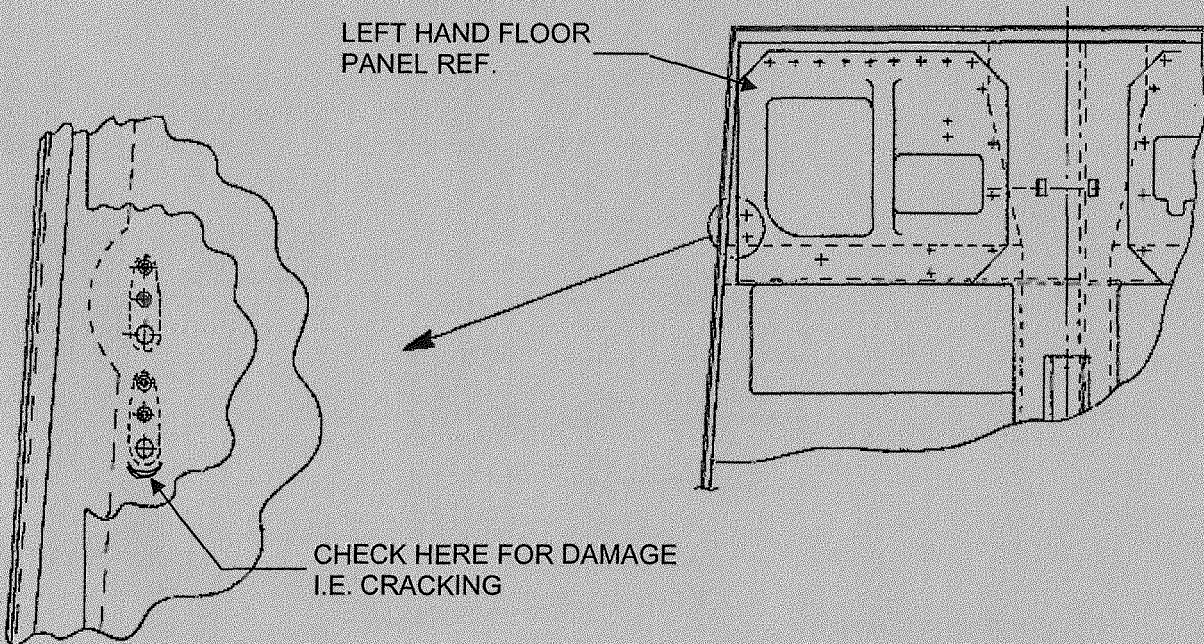
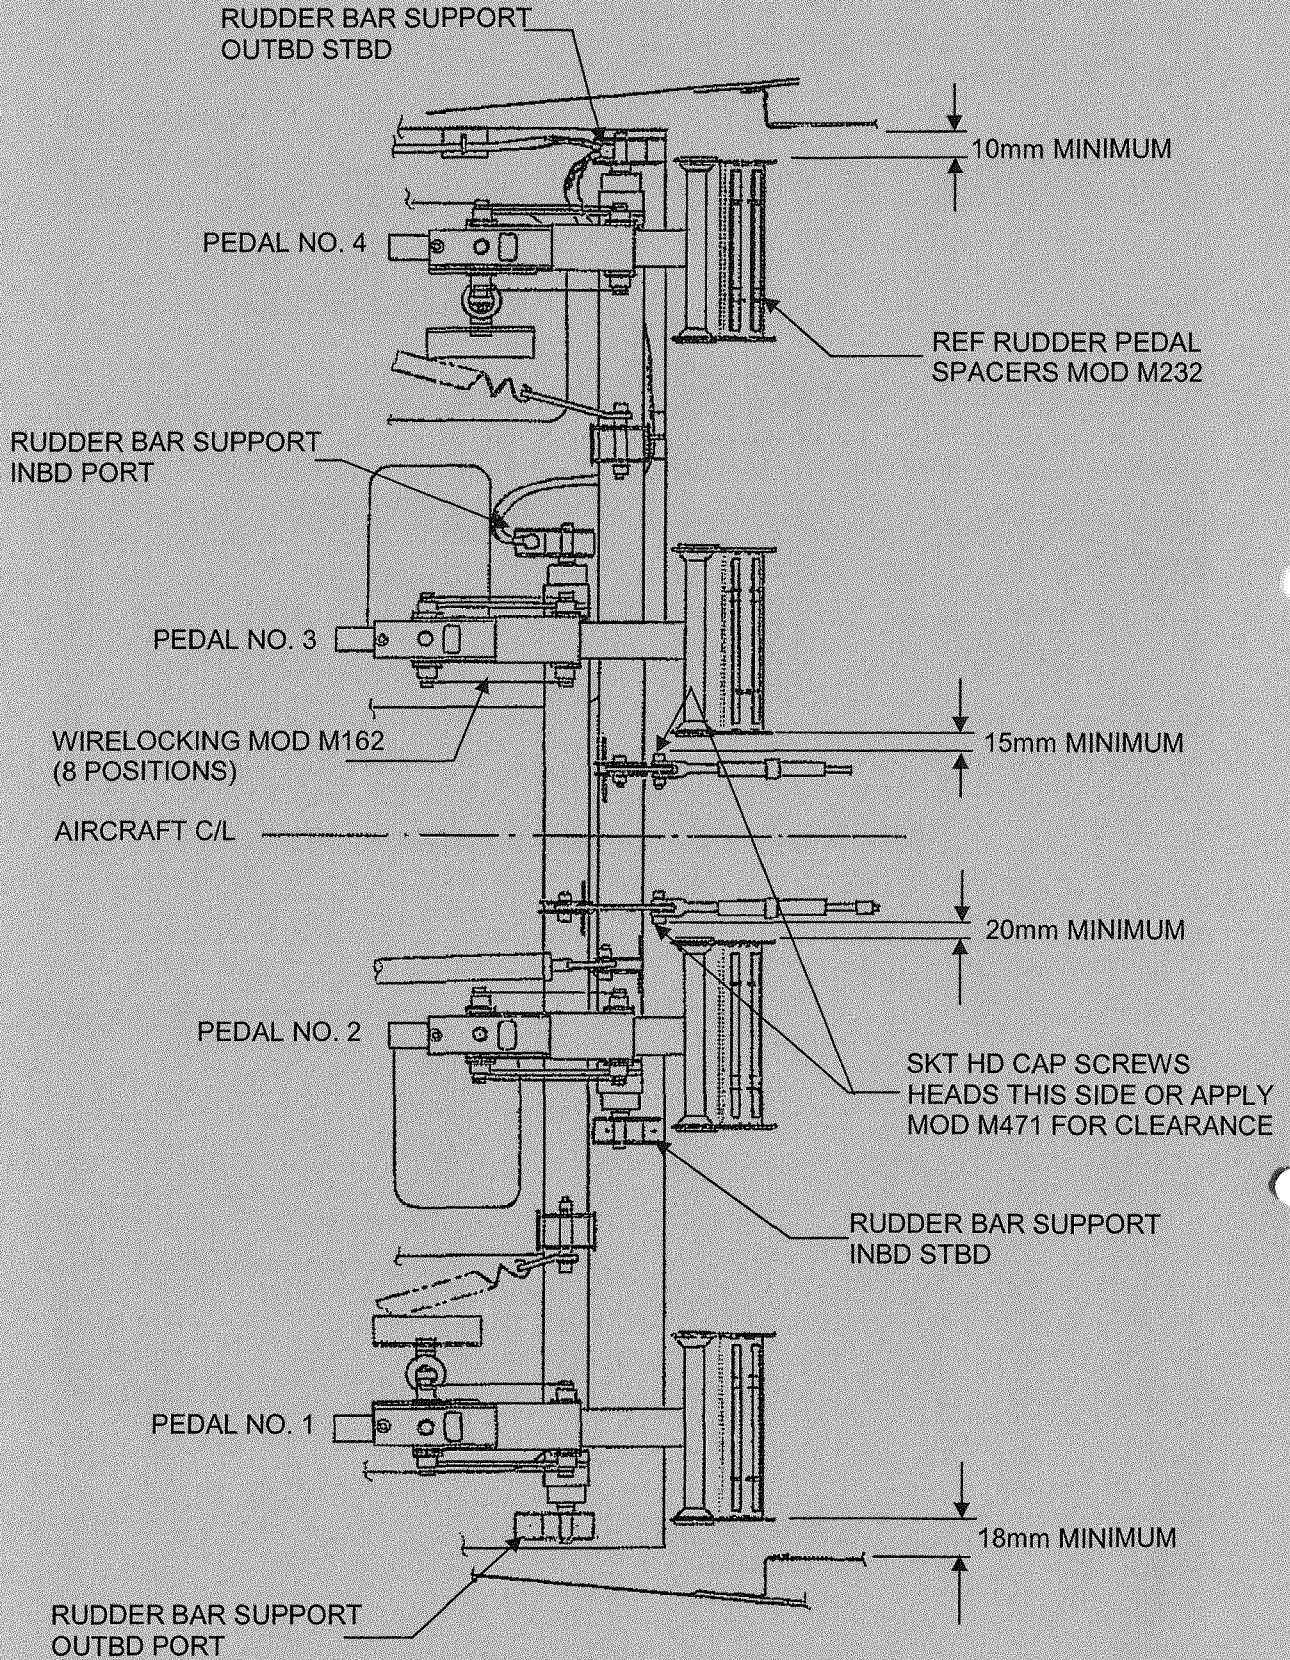

FIGURE 2
FIGURE 3
4. Check that the Rudder Pedal bar port outboard support bracket, ref. Figure 3, is square to the floor and not "lozenged" and there is no deformation to its base. Check floor panel under area of bracket, inspect for cracking which could allow the bracket to lean. If necessary remove floor panel and check for signs of cracking in the floor around the anchor nuts on Pre Mod M919 aircraft or the anchor nut mounting plate Post Mod M919 aircraft, refer Figure 2. Any GRP damage will be shown as a white shadow on the GRP, with cracking felt as a rough edge. A light shining up through the floor will show a shadow.
7. Check the remaining rudder bar support brackets, ref. Figure 3, are square to floor and not "lozenged" and there is no deformation to their bases. If any bracket is found to be suspect replace with new item. Inform SACL of any damaged bracket. Assemble item as per paragraph 6 and ensure end float is as stated in paragraph 8. Ensure bonding leads are correctly fitted, carry out bonding check refer relevant aircraft's Maintenance Manual.
12. Upon completion of rudder movement set-up ref. Paragraph 10 above. Ensure minimum clearances of trim panel to pedal side plates and rudder cable to pedal side plates are met Figure 3 refers. If necessary to obtain the required clearances, Mod M232 "Introduction of Rudder Pedal Packing for Increased Clearance of Surrounding Components" may be required to be invoked. Refer paragraph 7 for packing washers.
14. Ensure head orientation of rudder cable link bolt head is outboard, Figure 3 refers, this is a Low Pan Head bolt T67M-45-570 on Post Mod M471 "Introduction of Pan Headed Bolt on Rudder Cable Turnbuckles", aircraft.
17. Ensure rudder pedal carriage socket head caps screws are wire locked and bonded in with adhesive 126-51-024, use minimum amount, Mod M162 "Wire Locking of Rudder Pedals – Upper Pivots", refers. See Figure 3.